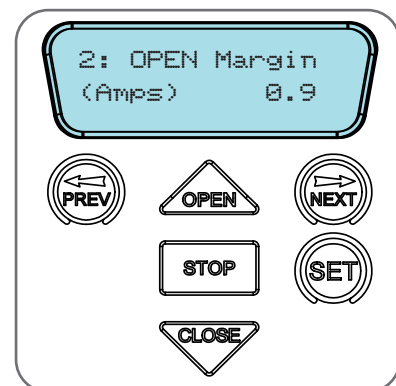

Fig 12.3
- MENU 2.2: OPEN Margin is displayed (**Fig. 12.3**).